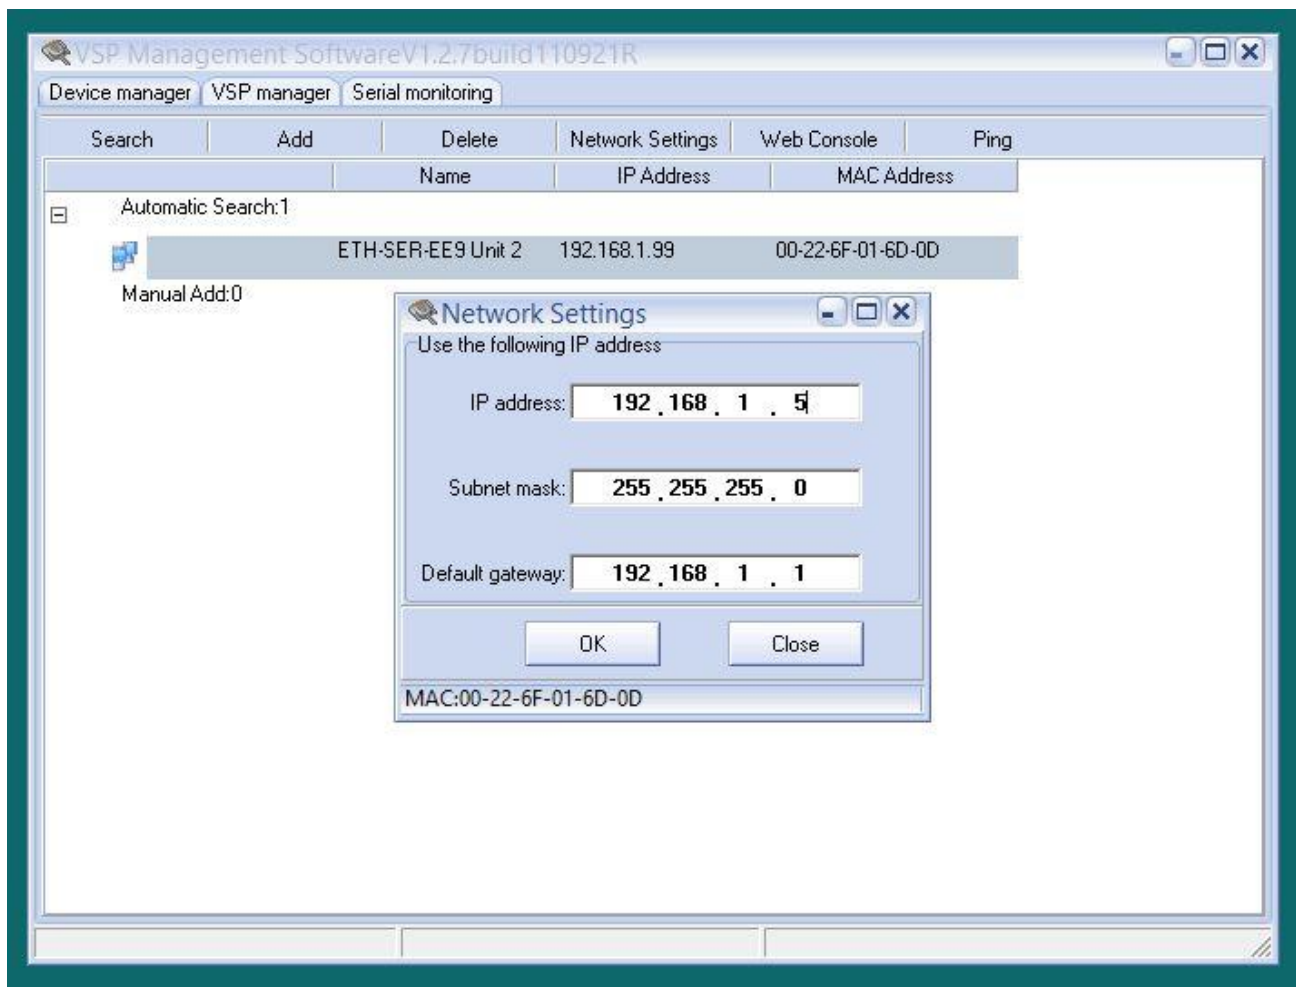

FIGURE 4.25 – ALTERING THE NETWORK SETTINGS
- 5) Highlight the search results and select Network Settings. Now you must put in the correct IP information. Our IP will be 192.168.1.5 - 192.168.1 for the matched network and 5 for the unique ID. Enter the subnet mask. Our subnet mask is 255.255.255.0 (the three 255s masks the network id and 0 masks the unique ID). The Default Gateway is 192.168.1.1. Your information will be different. (SEE FIGURE 4.25).